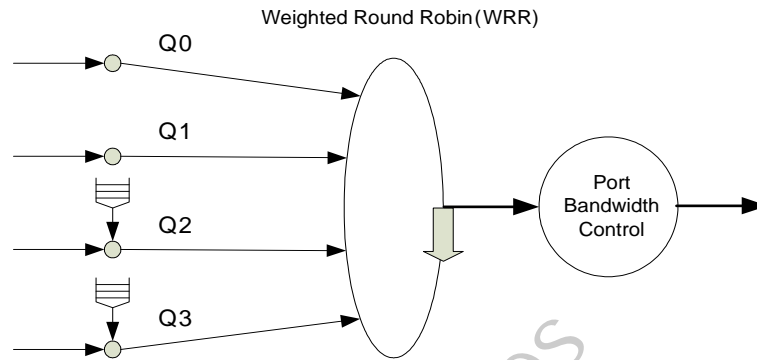

Figure 15. Packet-Scheduling Diagram
- Type I leaky bucket, which specifies the average rate of one queue (see Figure 15; only Q2 and Q3 have leaky bucket, Q0 and Q1 do not). The queue rate can be configured from 0kbps to the line rate in steps of 64kbps
In addition, the RTL8304MB-VB can select one of the two sets of packet-scheduling configurations according to the packet-scheduling mode. Figure 15 shows the RTL8304MB-VB packet-scheduling diagram.